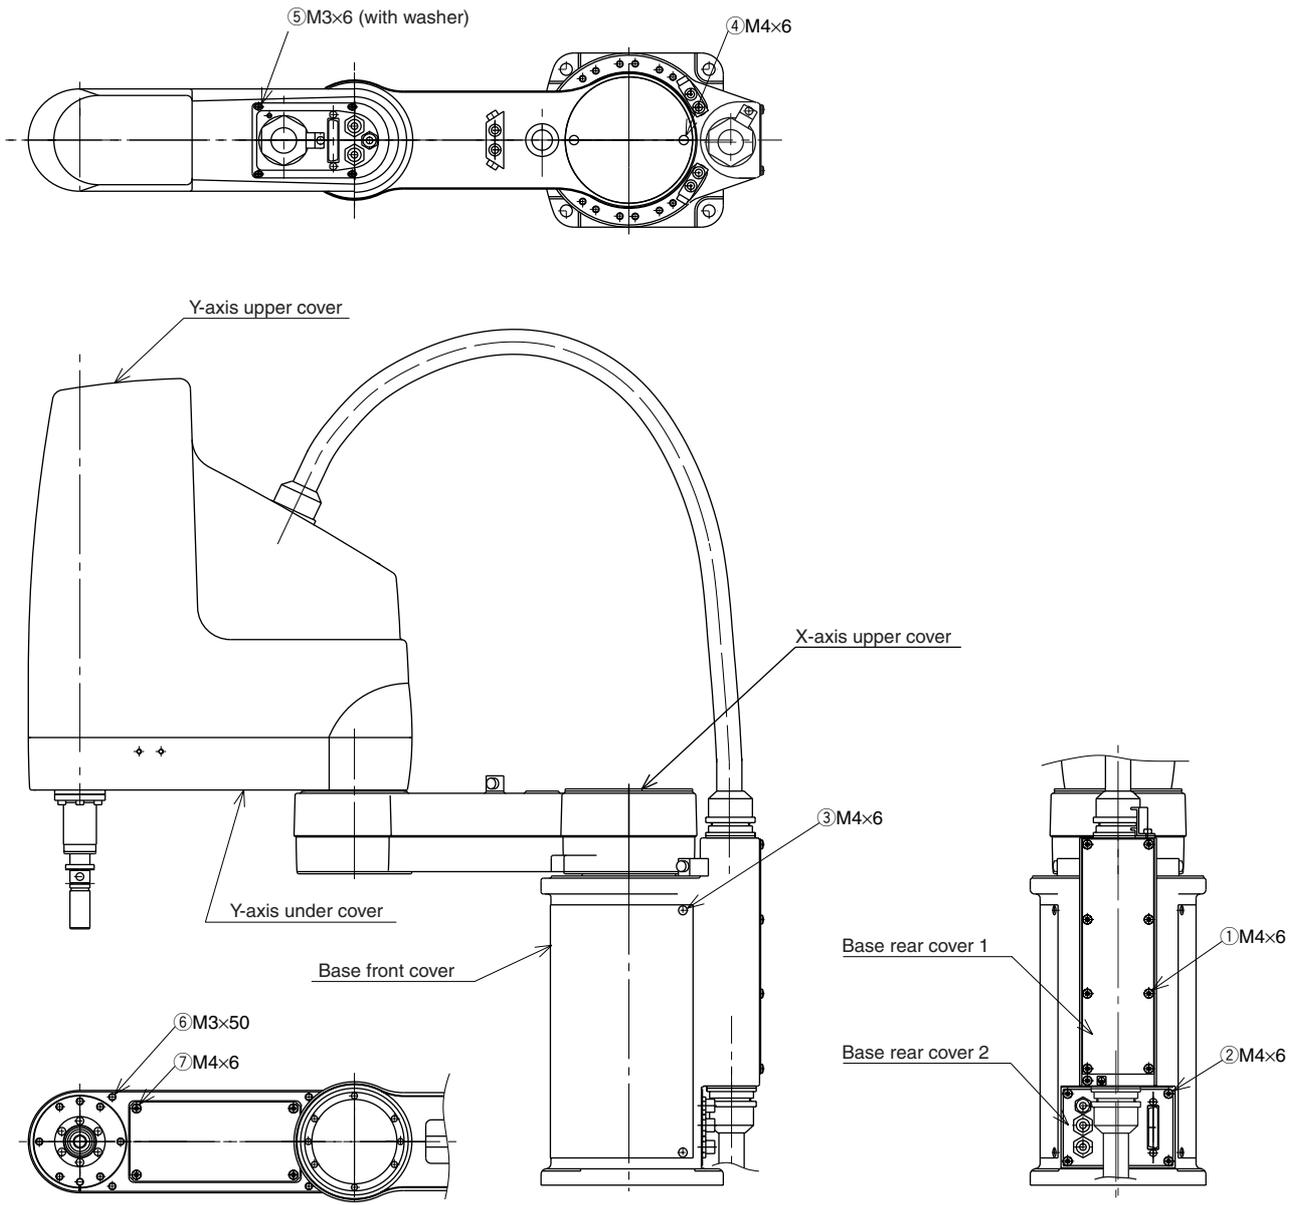

Fig. 4-26
④	M3×10	2
⑤	M3×16	2
**Table 4-6 YK500X, YK600X (See Fig. 4-26)**